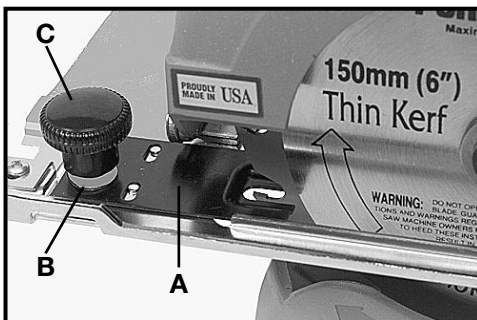

Fig. 10
An optional base insert (A), Fig. 10, is available as an accessory and is used to reduce chipping and splintering of top fibers of plywood when used with a fine tooth blade. THIS INSERT CANNOT BE USED WHEN MAKING BEVEL CUTS. Install insert as follows:
3. Place large slot in insert around stud and the two small slots over raised dimples on front of base as shown in Fig. 10.
4. Install washer (B), Fig. 10, and knob (C), Fig. 10, on stud but do not tighten at this time.